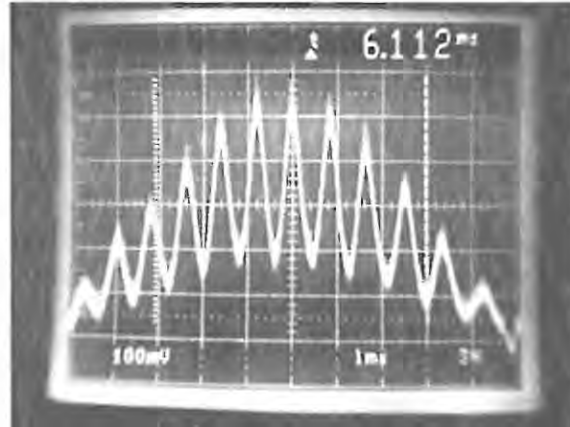

Fig. 4.6 Pockels cell #1 miss-alignment
3. Observe the free-running spectrum on the oscilloscope after removing the wave plate. It should appear as shown in the previous photo. If the spectrum appears to be modulated, a vertical and/or horizontal adjustment to one or both Pockels cell will need to be made depending on how severe either Pockels cells is misarranged. Example of misalignment of the Pockels cell #1 by less than a  $\frac{1}{4}$  turn of a ball driver in the horizontal (yaw) axis can be seen in Fig. 4.6.